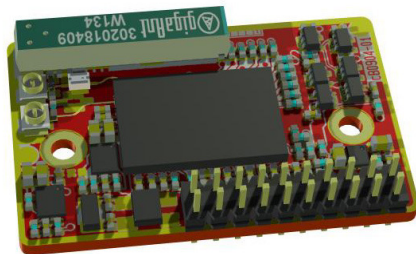

Figure 5 Primary side of OWLAN211b
- Connector J1 a 2 mm pitch 2x10-pin header (see Figure 5).